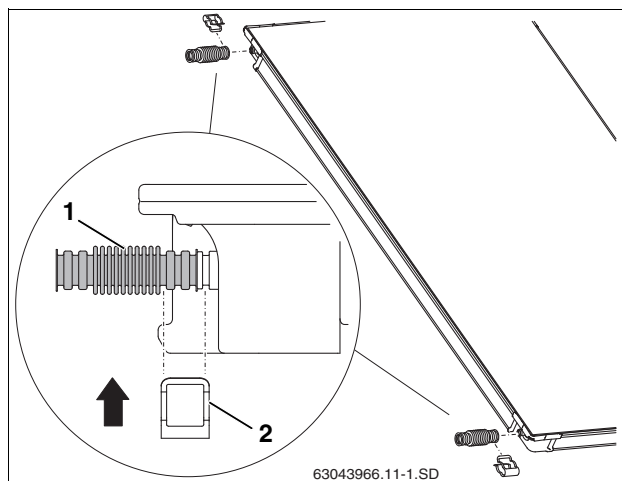

Fig. 48 Installing flexible connectors on the first collector
- ▶ Push flexible connectors (Fig. 48, [1]) onto the left-hand connections on the first collector. Ensure each one is pushed in until it hits the stop.
- ▶ Push clip (Fig. 48, [2]) over the flexible connector to secure it in place.